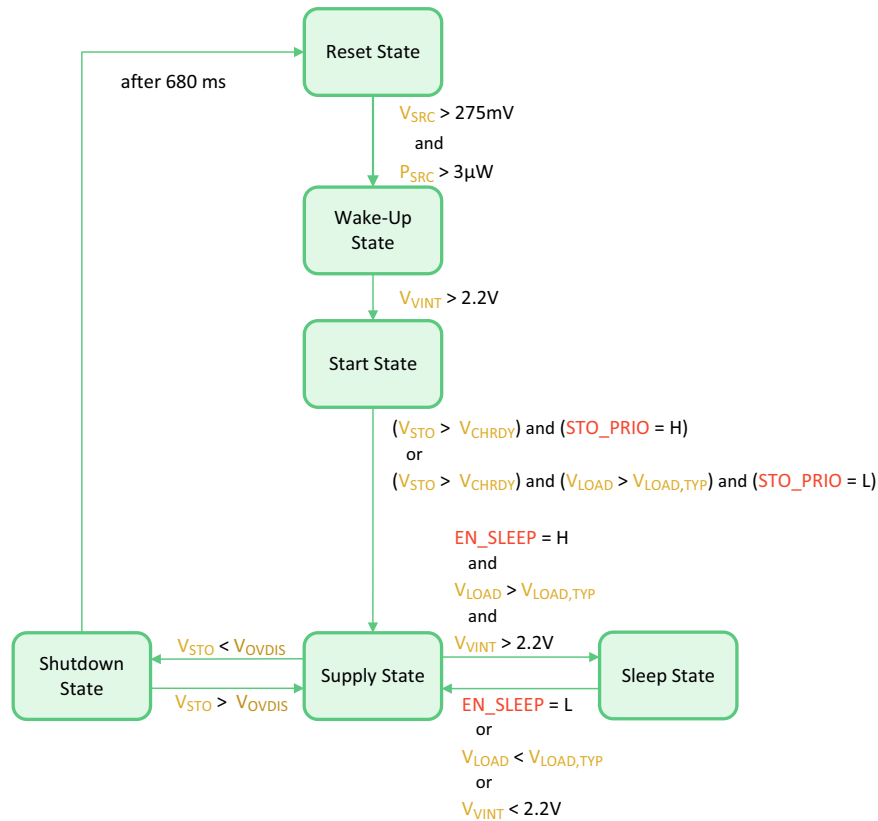

Figure 11: Diagram of the AEM10330 States
- If **EN_SLEEP** is HIGH and conditions (shown on Figure 11) on V_{LOAD} and V_{VINT} are satisfied, the AEM enters **SLEEP STATE** (see Section 5.3.4).